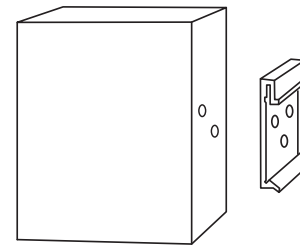

Figure 1
1. Insert a **Mounting Screw** through the **Mounting Plate** and into the **PoE Injector**. Using a **Phillips Head Screwdriver**, tighten the **Mounting Screw** just enough to catch the thread. (Figure 1)